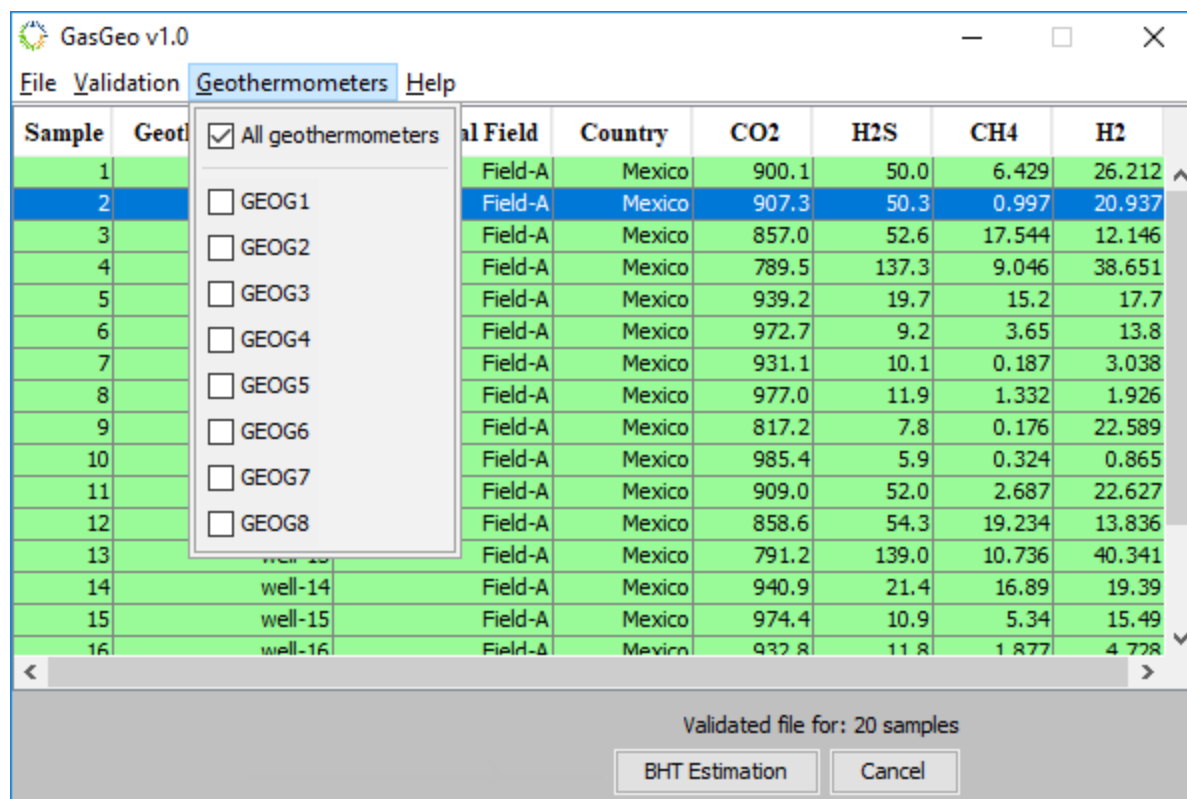

Fig. 9 Example of 8 gas geothermometers available for temperature estimation ( $^{\circ}$  C)
**Menu Geothermometers.** This menu is enabled once the data to be processed has been validated (Fig. 9).